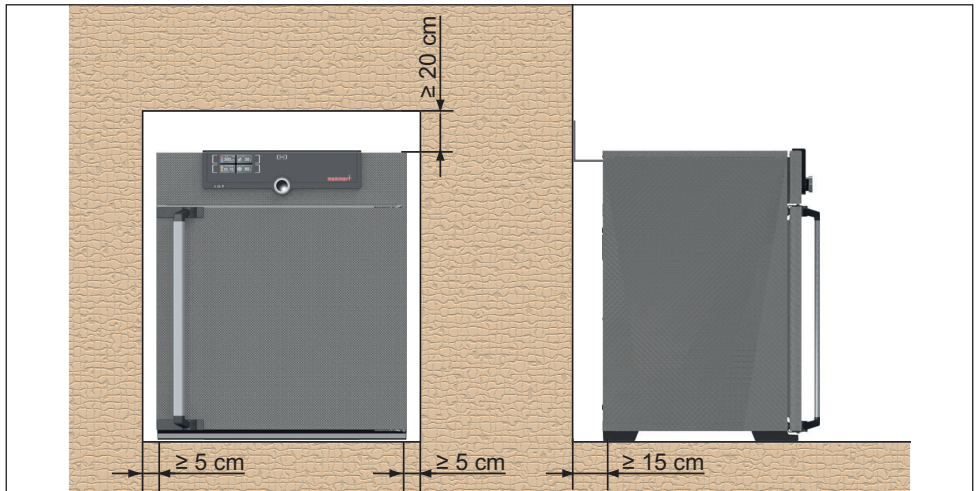

Fig. 8 Minimum clearance from walls and ceiling
The distance between the wall and the rear of the appliance must be at least 15 cm. The clearance from the ceiling must not be less than 20 cm and the side clearance from walls or nearby appliances must not be less than 5 cm (Fig. 8). Sufficient air circulation in the vicinity of the appliance must be guaranteed at all times.
2. Bend the tilt protection upwards by 90° in the desired distance to the wall (observe the minimum distance to the wall, see Fig. 8).